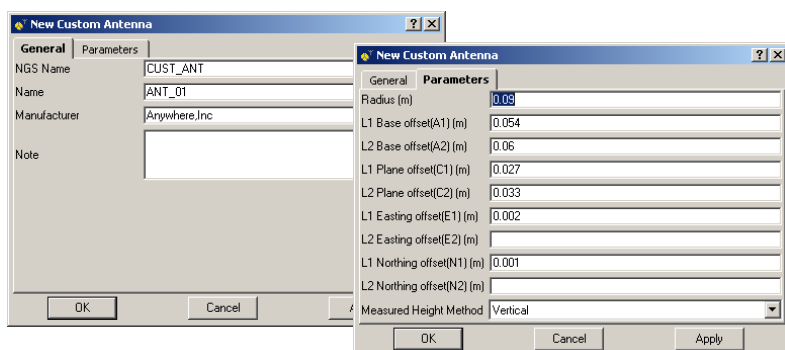

Figure 4-84. New Custom Antenna – General and Parameters Tabs
- On the *General* tab, edit the NGS Name, Name, Manufacturer, and Note fields (Figure 4-84). Then click **Apply** to save the information.
- Click the *Parameters* tab and enter the radius of antenna, offsets of the phase center from the antenna reference point (ARP) for L1 and L2 frequencies, and height measuring method for the antenna (Figure 4-84).